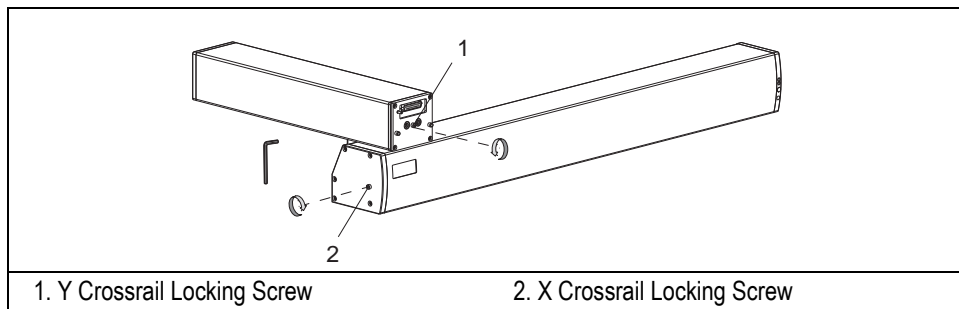

Figure 4-25. X and Y Crossrails Locking Nuts
7. Remove the X and Y crossrail locking Allen screws, as shown in Figure 4-25, in order to release the relevant movement mechanism. These screws are recognizable by a label attached to the screws.